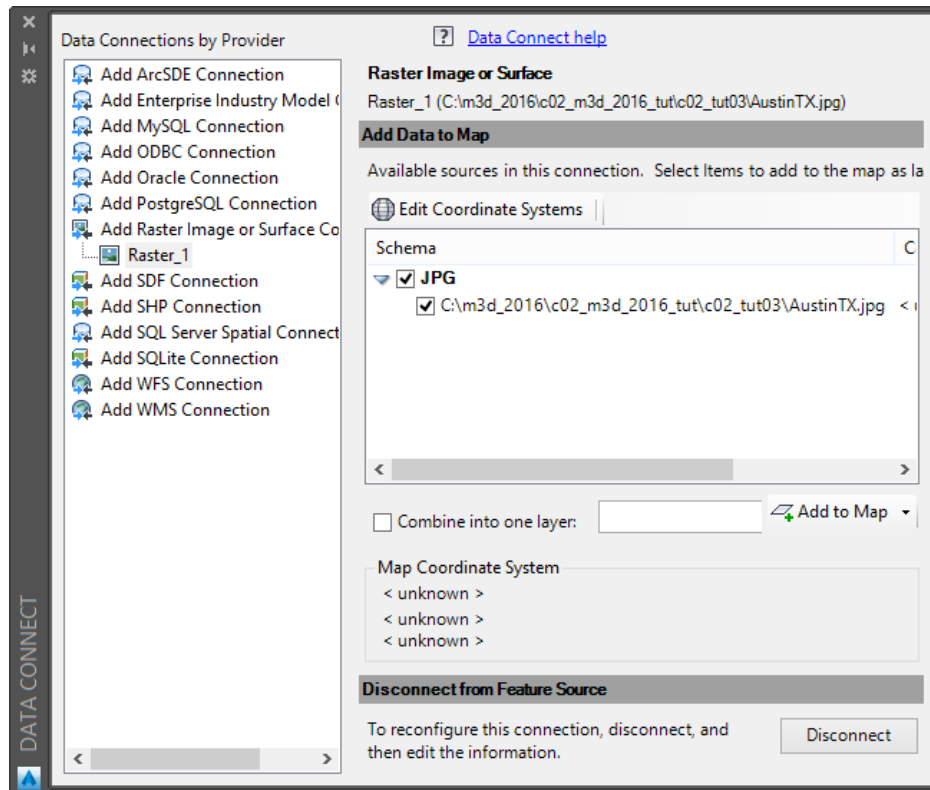

Figure 2-25 The **Raster Image or Surface** page of the **DATA CONNECT** wizard
6. Next, choose the **Connect** button; the **Raster Image or Surface** page is displayed in the right pane of the wizard, as shown in Figure 2-25.